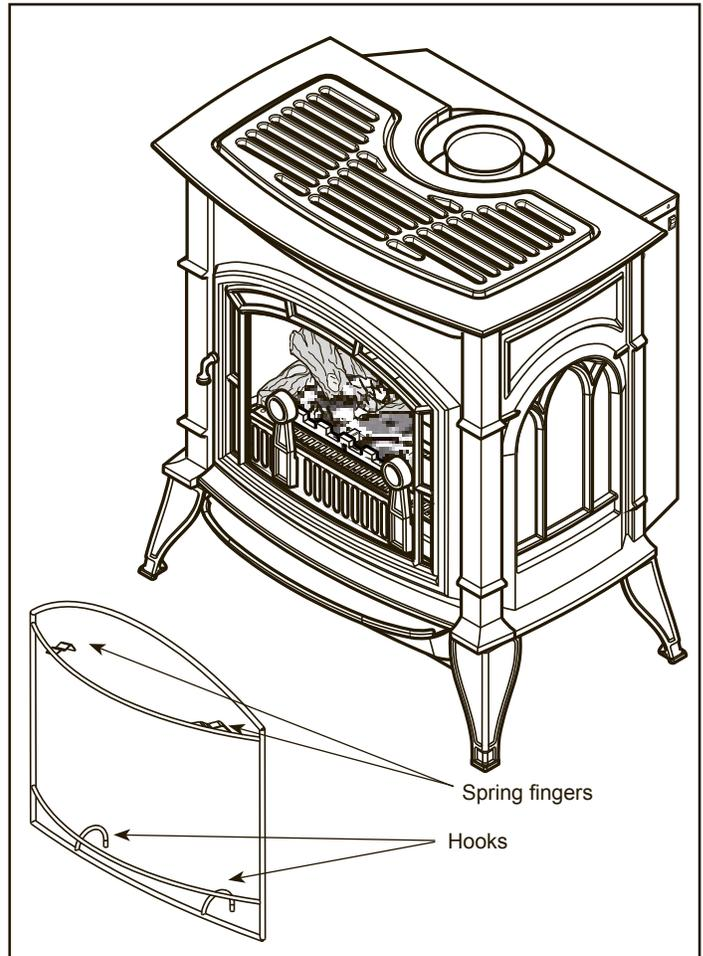

Figure 36 - Safety Barrier Installation
2. Place the two bottom hooks over the bottom edge of the stove opening. Figure 36